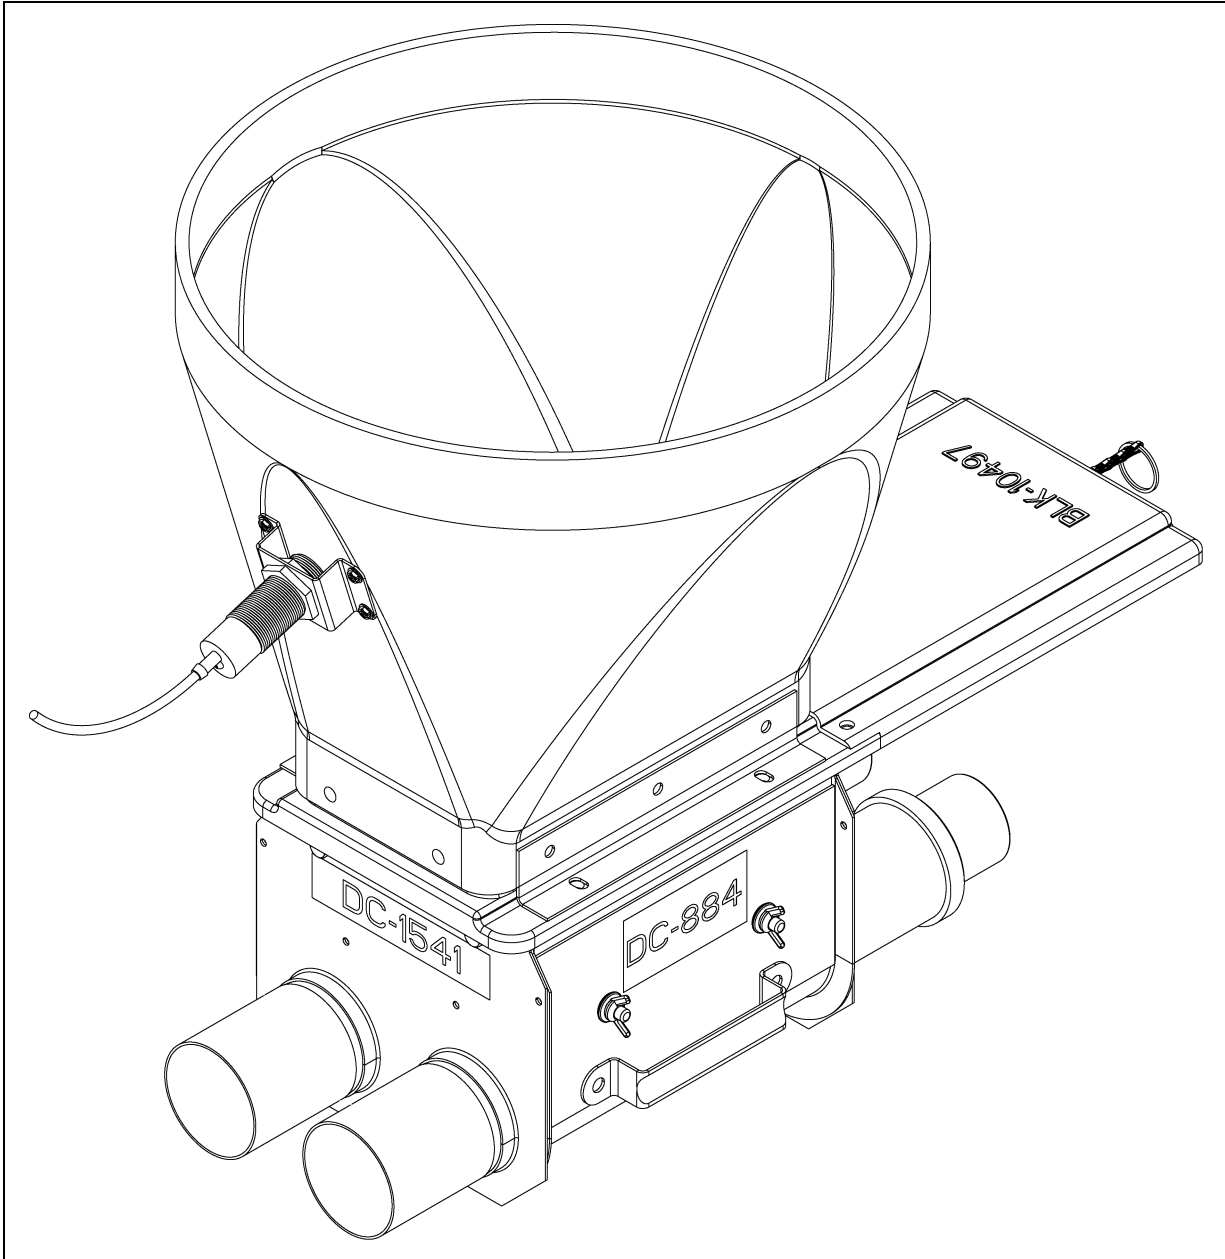

Figure 5B Location of Proximity Switch for Single Boot
2. Attach the Proximity Switch and Mounting Bracket Kit (FLX-5207) to the plastic boot as shown in Figure 5B, using four (4) #10-16 HWH SDS screws provided in the kit.